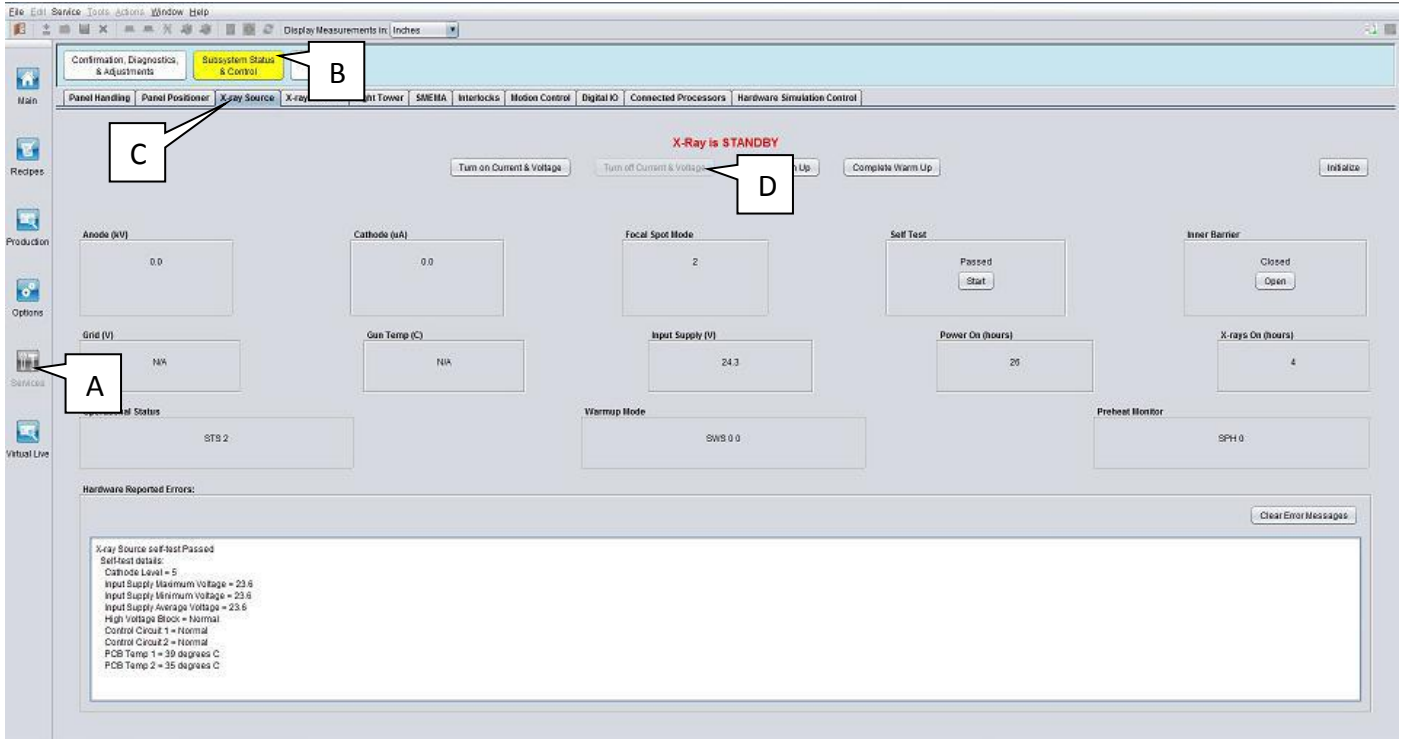

Figure 6
9. Go to X-Ray Source tab turn off the X-Ray voltage as Figure 6. Then turn off X-Ray Key at Operator Console and open the machine Front Access Door.